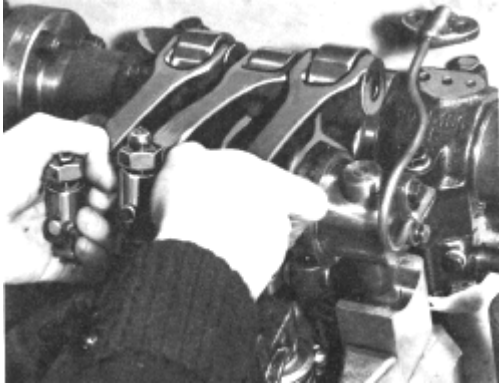

Fig. 5-24 - Rocker Arm Shaft Installation
45. Lubricate the shaft studs with Texaco Threadtex No. 2303 and install the rocker arm shaft assembly, Fig. 5-24. Apply the shaft caps with the short toe facing out.